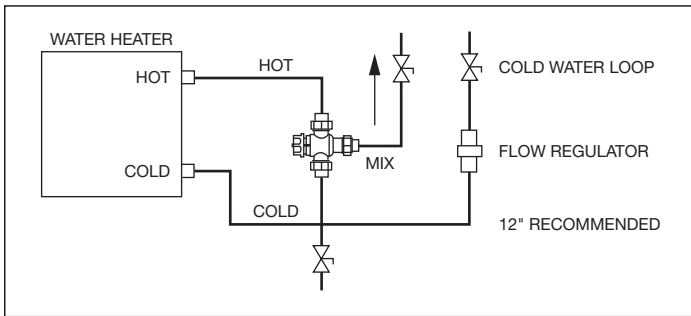

**Figure 1**
1. Remove the green knob by inserting a small screwdriver in the notch and gently prying up. (See Figure 1)